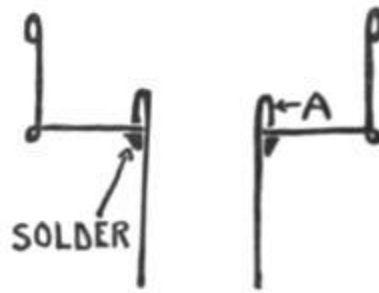

FIG. 32.
**Cutting a Hole in the Drip Cup.**—When the candle socket is completed, a hole should be cut for it through the bottom of the drip cup. The socket is slipped through this hole until the bottom of the flange A rests against the bottom of the drip cup, see Fig. 32. A small chisel should be used to cut the hole through the bottom of the drip cup. The drip cup is rested on a small block of wood which is held in the vise jaws, and the chisel used in the same manner as a punch, the end of the wooden block supporting the tin as the chisel cuts through it. The cutting edge of the chisel should be about  $\frac{1}{8}$ -inch wide and should be very sharp. Such a chisel may be purchased at most tool dealers or a  $\frac{1}{8}$ -inch nail-set may be purchased and the end ground to a chisel point on a grindstone. A common steel nail may be used for a chisel if the point is filed off entirely and the end of the nail filed to a chisel point. The shank of the nail should be  $\frac{1}{8}$  inch in diameter.
Set the bottom edge of the candle socket in the center of the drip cup and trace a line around it with a sharp pencil or a steel scribe. Then place the drip cup on a block of wood and cut out the disk of tin inside the line, using a series of chisel cuts to follow the line. Take care not to cut the hole too large—it should just fit the candle socket as shown in the sectional drawing, Fig. 32. A half-round file may be used to file away any rough or jagged edges left by the chisel cutting.
The different parts of the candlestick are now ready to be soldered together. The socket should be fitted into the drip cup and these two soldered together first. Apply the solder to the bottom of the drip cup and socket in the angle where the socket and the drip cup meet, as shown in Fig. 32.